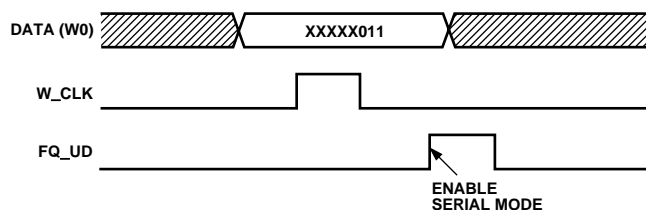
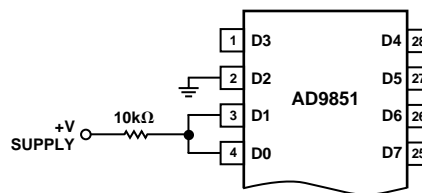
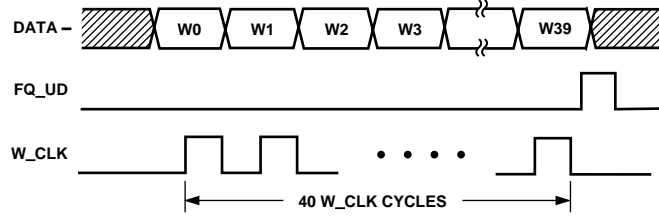

Figure 17. Serial-Load Enable Sequence
Figure 18. Hardwired xxxxx011 Configuration for Serial-Load Enable Word W0 in Figure 17
Figure 19. Serial-Load Frequency/Phase Update Sequence
In serial load mode, forty subsequent rising edges of W_CLK will shift and load the 1-bit data on Pin 25 (D7) through the 40-bit register in “shift-register” fashion. Any further W_CLK rising edges after the register is full will shift data out causing data that is left in the register to be out-of-sequence and corrupted. The serial mode must be entered from the default parallel mode, see Figure 17. Data is loaded beginning with W0 and ending with W39. One note of caution: the 8-bit *parallel* word (W0)—xxxxx011—that invokes the serial mode should be overwritten with a valid 40-bit serial word immediately after entering the serial mode to prevent unintended engaging of the $6\times$ REFCLK Multiplier or entry into the factory test mode. Exit from serial mode to parallel mode is only possible using the RESET command.
*This bit is always Logic 0 unless invoking the serial mode (see Figure 17). After serial mode is entered, this data bit must be set back to Logic 0 for proper operation.
Entry to the serial mode, Figure 17, is via the parallel mode which is selected by default after a RESET is asserted. One needs only to program the first eight bits (word W0) with the sequence xxxxx011 as shown in Figure 17 to change from parallel to serial mode. The W0 programming word may be sent over the 8-bit data bus or hardwired as shown in Figure 18. After serial mode is achieved, the user must follow the programming sequence of Figure 19.
Note: After serial mode is invoked, it is best to immediately write a valid 40-bit serial word (see Figure 19), even if it is all zeros, followed by a FQ_UD rising edge to flush the "residual" data left in the DDS core. A valid 40-bit serial word is any word where W33 is Logic 0.